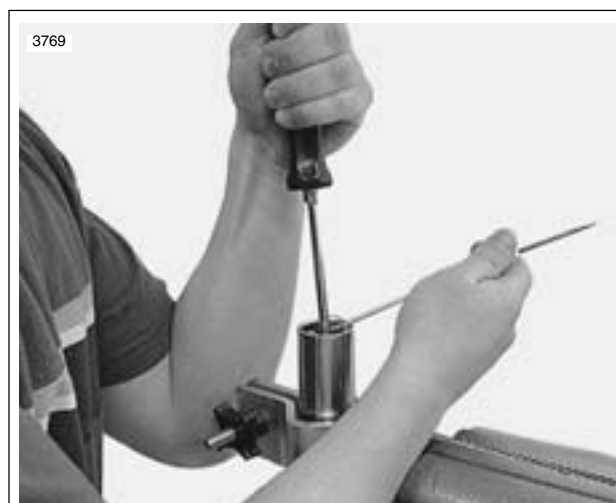

Figure 1-27. B-Spring Seat
4. See Figure 1-27. Push down on the B-spring seat (O-ring included) and remove the stopper ring and spring seat.